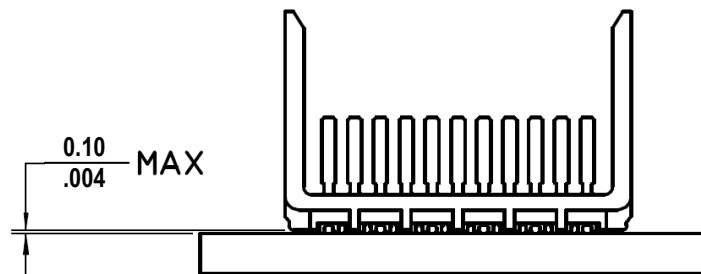

Figure 3
- Using the application tool and an appropriate press, seat the header assembly until there is less than 0.10mm (.004 in) clearance between the bottom of the plastic housing and the surface of the PCB. See Figure 3.